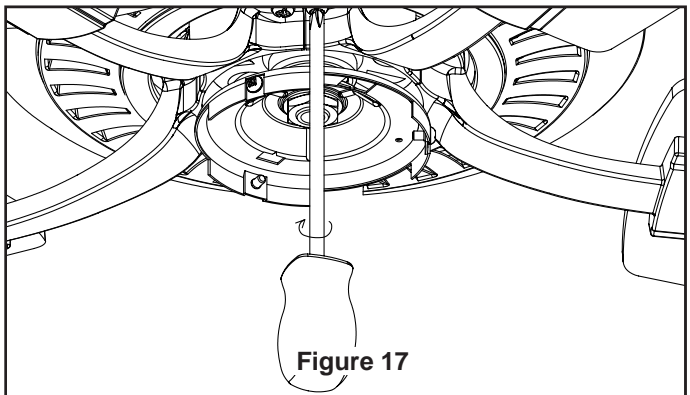

Figure 17
3. Secure the blade holders to the motor support using the 1/4-20 x 14 mm screws through the holes located on the side of the motor support. (Figure 17)